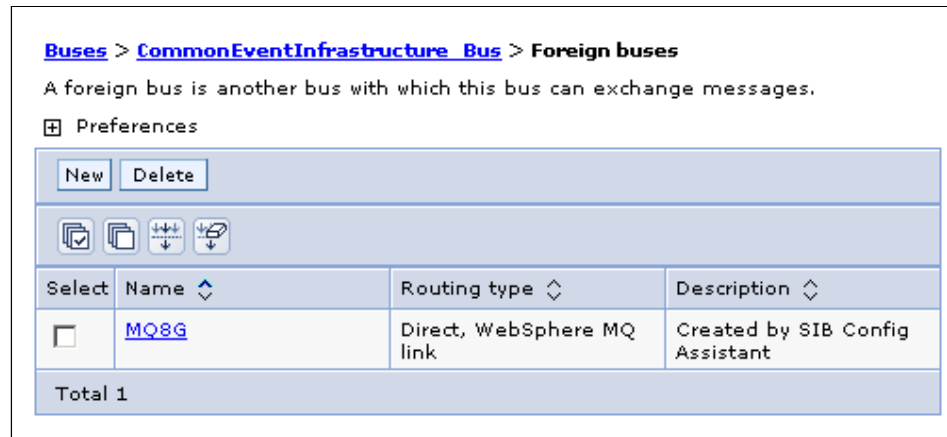

Figure 8-9 Foreign bus definition, MQ8G
- A foreign bus definition: MQ8G (Figure 8-9).